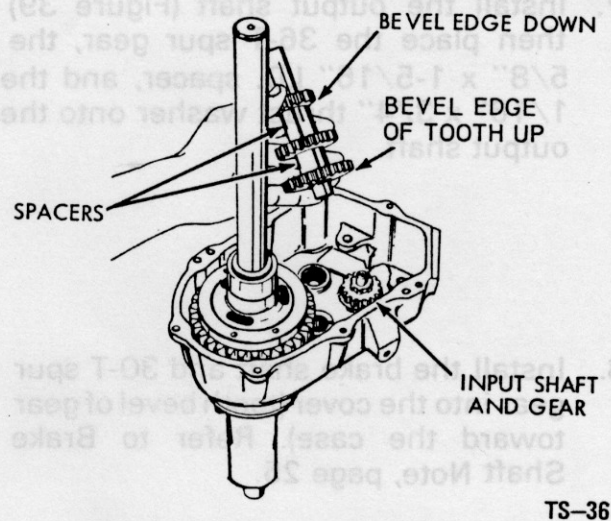

Figure 36 - Install Three Gear Cluster
4. Install the three gear cluster idler shaft and gears (Figure 36) as follows: